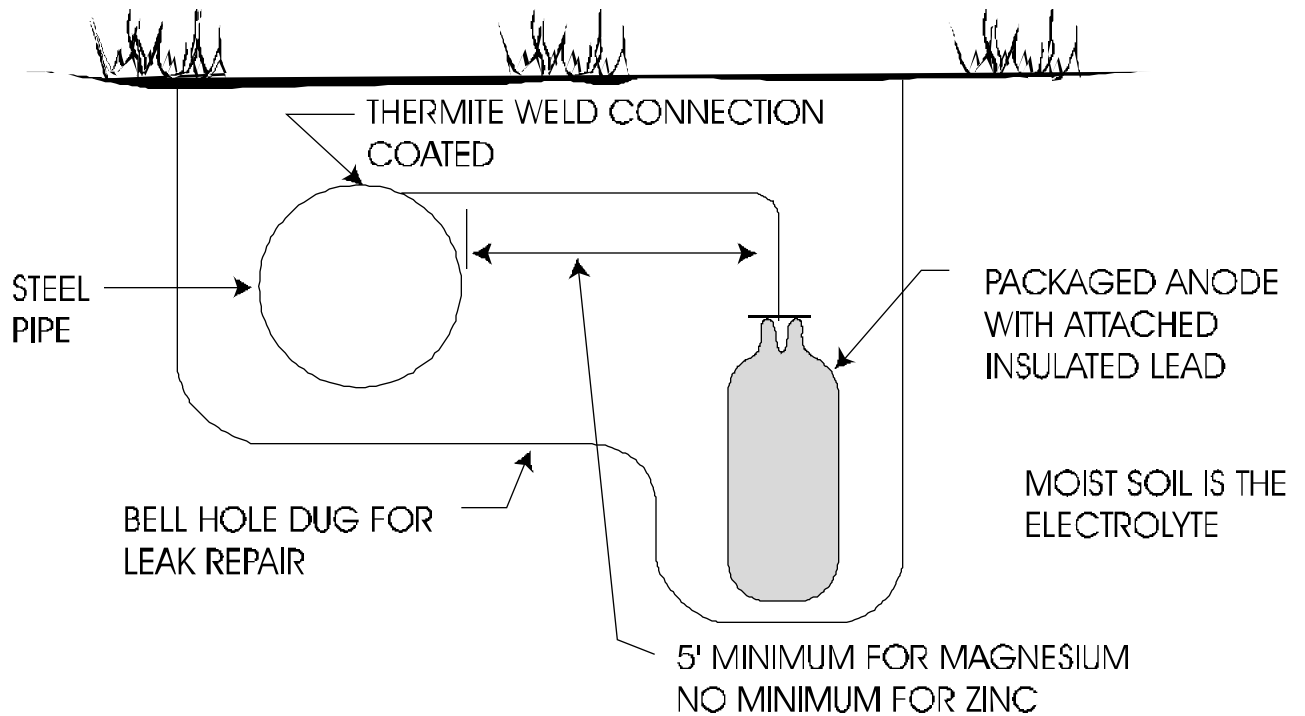

Figure VIII-3
**Sacrificial protection** - The reduction of corrosion of a metal (usually steel in a gas system) in an electrolyte (soil) by galvanically coupling the metal (steel) to a more anodic metal (magnesium or zinc.) (See Figure VIII-3.) The magnesium or zinc will sacrifice itself (corrode) to retard corrosion in the steel pipe.
Anodes are "sized" to meet current requirements of the resistivity of the environment (soil.) Anodes are made of materials such as magnesium (Mg), zinc (Zn) or aluminum (Al). They are usually installed near the pipe and connected to the pipe with an insulated conductor. They are sacrificed (corroded) instead of the pipe. (See Figures VIII-3, VIII-11 and VIII-12.)